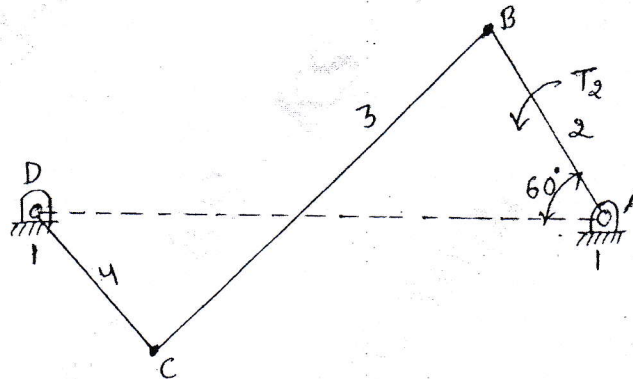

Fig.Q1(b)
b. In a four bar mechanism shown in Fig.Q1(b), torque T_3 and T_4 have magnitudes of 3000 Nm and 2000 Nm respectively. Take $AD = 800$ mm, $AB = 300$ mm, $BC = 700$ mm and $CD = 400$ mm. For static equilibrium of mechanism, find the required input torque on the crank.